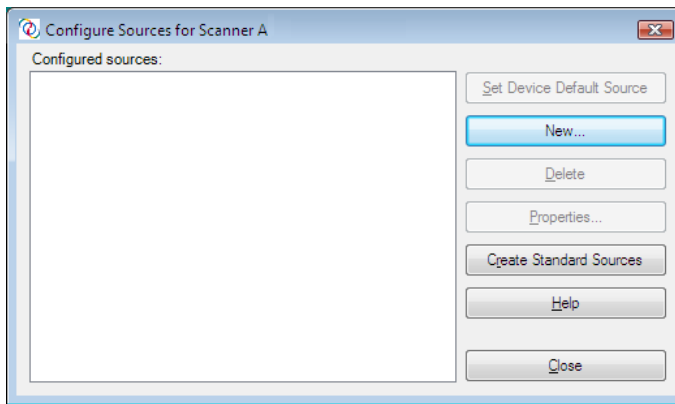

Figure A-3. Configure Sources Dialog Box
- 4 Select the name of your scanner model and click Configure Sources. The Configure Sources dialog box will display with the name of the scanner in the title bar (Figure A-3).